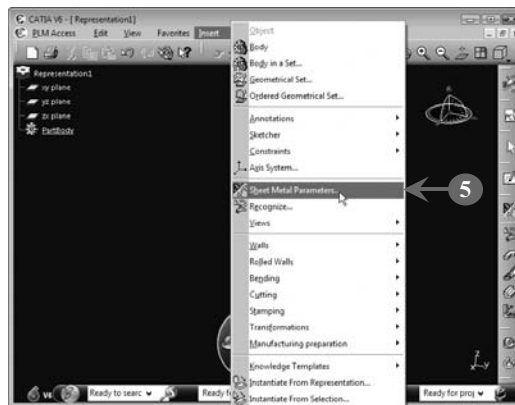

FIGURE 6.4
5. Select **Insert > Sheet Metal Parameters** from the menu bar to set the sheet metal parameters, as shown in **Figure 6.4**: